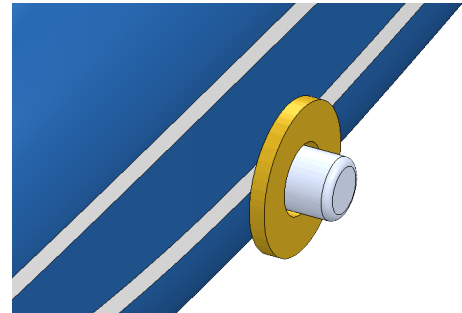

Fig. 6
Step 12. Place **Washer on Front Axle** close to the body, **Fig. 6**. When Washer snaps into place and cursor changes to indicate a Concentric mate , click to release Washer.